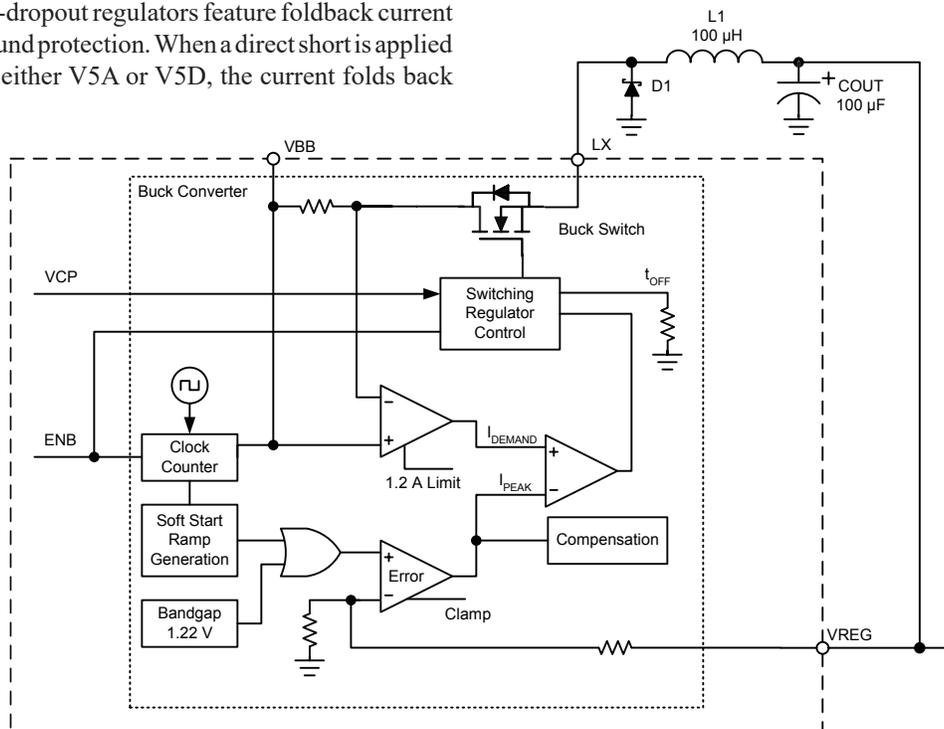

Figure 2. Buck converter with switching regulator
**Buck Converter with Switching Regulator.** A current-mode, variable frequency buck DC-to-DC converter and switching regulator are integrated in the A8450, as shown in figure 2. This feature allows the device to efficiently handle power over a wide range of input supply levels. The DC-to-DC converter outputs 5.7 V typical and has an overcurrent limit of 1.2 A typical.